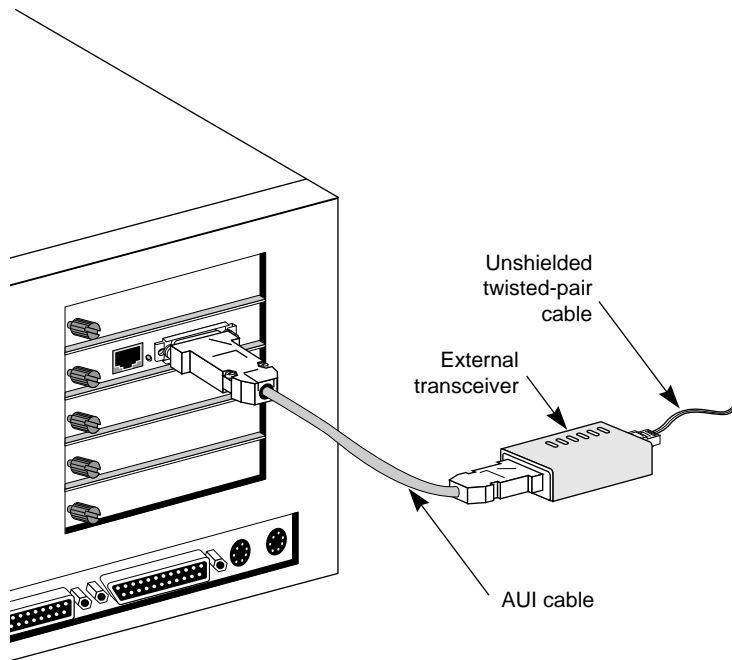

Figure 4-7. Attaching the External Transceiver
3. Connect the other end of the AUI cable to the external transceiver (see Figure 4-7).